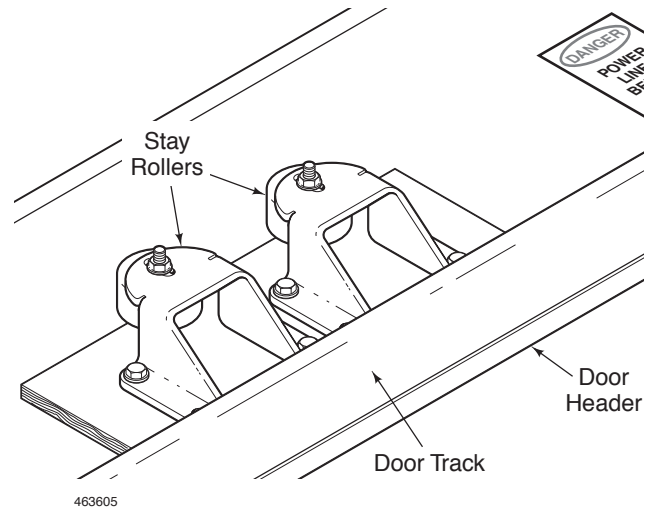

Figure 10
2. If not found in the hardware box, the Stay Roller assemblies are secured to a piece of wood located on the front side of the Door Header. Remove them for installation. See Figure 10.